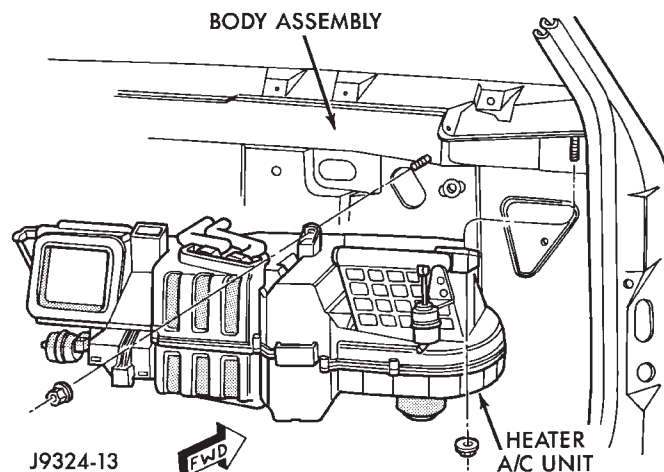

Fig. 13 Heater-A/C Unit (Shown from Passenger Compartment)
(12) Disconnect the electrical connections.
(13) Remove the attaching nuts from the studs in the passenger compartment side of the dash panel (Fig. 13).
(14) Remove the heater-A/C unit from the vehicle.
(1) Position the heater-A/C unit into the dash panel. Be sure the drain tube is positioned in the dash panel drain hole.
(2) Install the passenger compartment attaching nuts (Fig. 13). Tighten the nuts to 4.5 N•m (40 in. lbs.) torque.